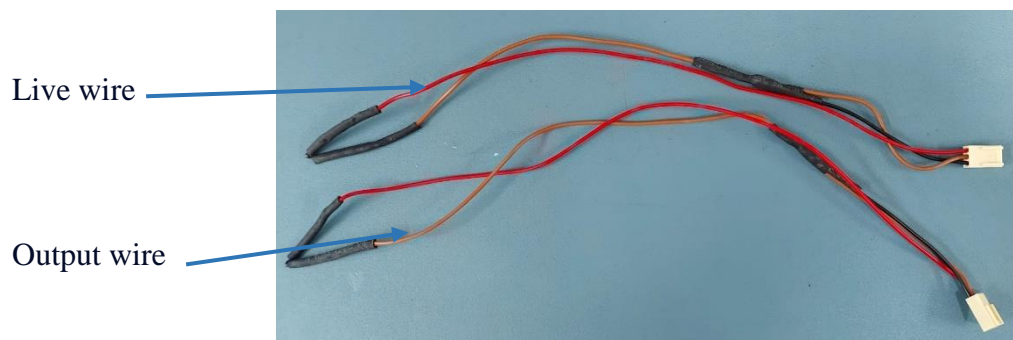

Figure 7: Thermistor assembly with 3 Pin RMC female connector
2. Secure both the live and output wires with an insulation tube as shown in the figure 7.